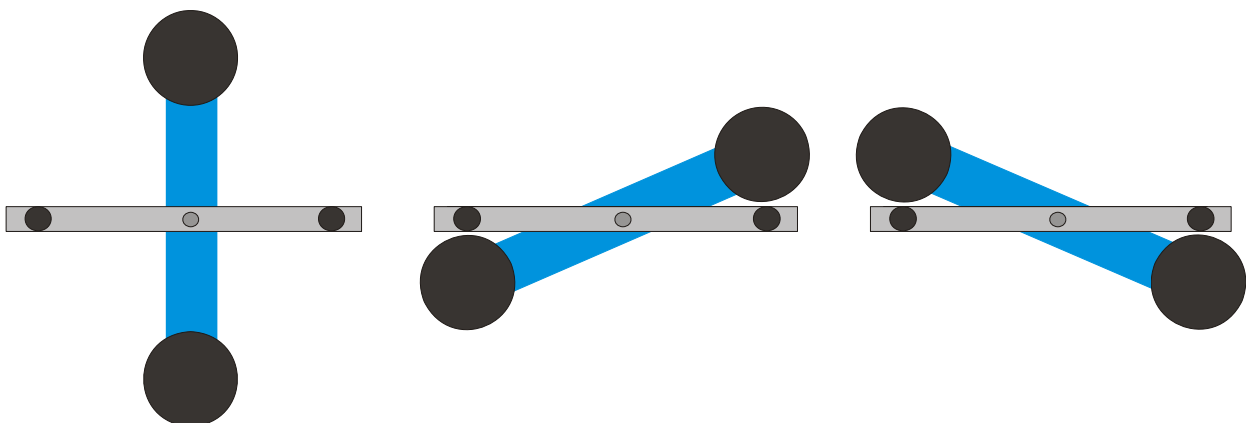

Fig. 6 Positions of outer support beam (as seen from above) Left: Position 1, Centre: Position 2, Right: Position 3
- Place the large lead spheres on the outer support beam at position 1 (see Fig. 6) and wait till the vibration has settled down (by observing the laser pointer). Calibrate the zero point if necessary.